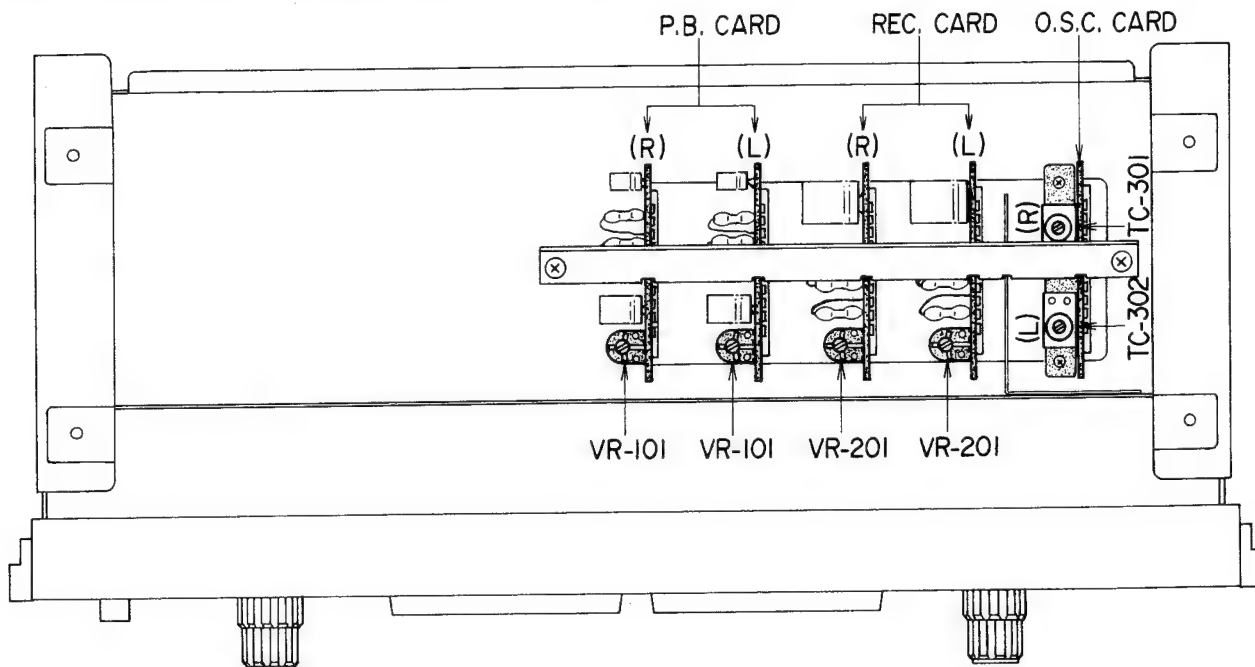

Fig. 6-1
- Adjust the VR 101 (semi-fixed resistor 20 K-B, Fig. 6-1) of the pre-amplifier so that Line Output Voltage indicates 1.228 V (+4 dbm).